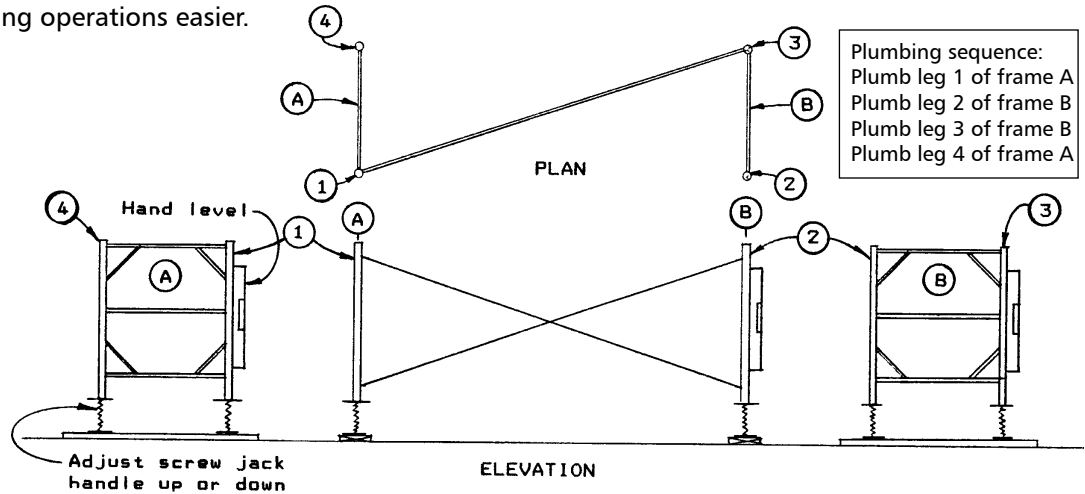

Fig. 34
- Plumb tower with bottom jacks, using a carpenter's level (Fig. 34). One complete turn of jack handle equals 1/4" up or down. It is very important that the base unit is plumbed and accurately positioned to make the following operations easier.